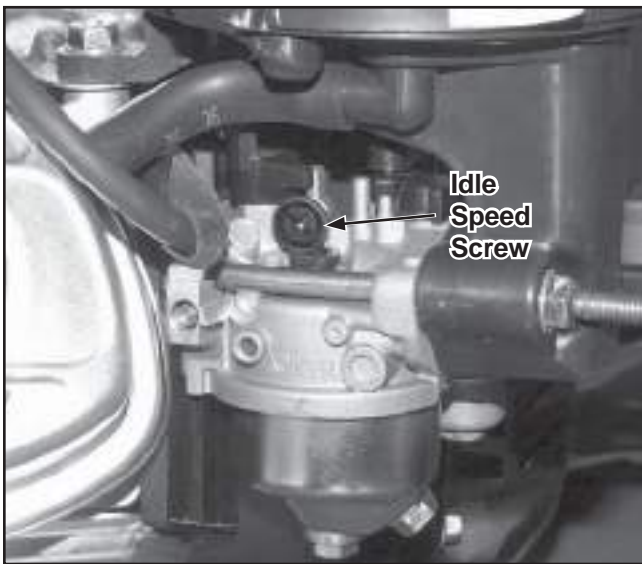

Figure 5-7. Carburetor Adjustments.
2. **Low Idle Speed Setting:** Place the throttle in the **idle** or **slow** position. Set the low idle speed to 1800 RPM ( $\pm 150$  RPM) by turning the low idle speed screw in or out. See Figure 5-7.